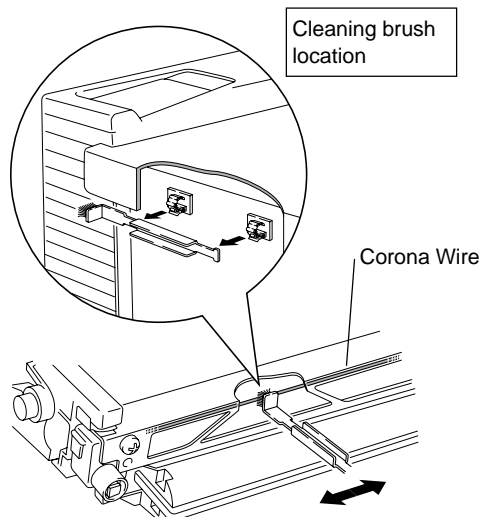

Fig.6-7
- i) Remove any toner on the corona wire with the brush supplied with the printer. (Fig.6-7)